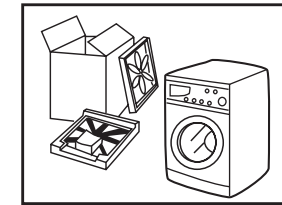
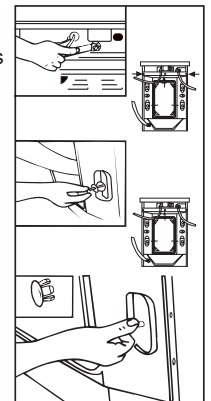

Fig. 1
Fig.2
- Remove all the packing materials (including the foam base) to prevent vibration during use, as shown in Fig.1. Upon opening of the package, water drops may be seen on the plastic bag and the porthole. This is normal phenomenon resulting from water test in the factory.
- Dismantle the packing bolts as shown in Fig. 2.
<p>3. Clean the detergent compartment regularly. For the detergent compartment similar to figure (a), raise the compartment slightly to remove and replace after cleaning.</p>  <p>Fig.(a)</p>	<p>4. Clean the filter Cleaning methods (once a month)</p> <ol style="list-style-type: none"> <li>1) Push out the outer cover (Fig. 1);</li> <li>2) Screw out filter by turning counterclockwise (Fig. 2);</li> <li>3) Flash clean with running water;</li> <li>4) Replace the filter by turning clockwise and remount the cover.</li> </ol> <p>Caution: The filter must be in place, or it may lead to leakage.</p>    <p>Fig1 Fig2 Fig3</p>